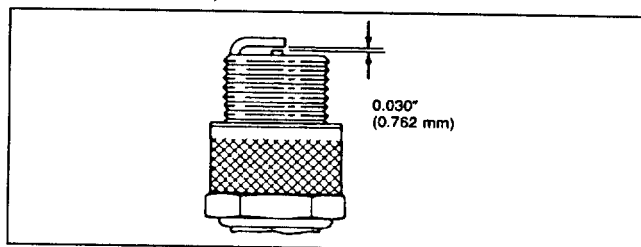

Figure 21
4. Set air gap between center and side electrodes at 0.030 of an inch (0.762 mm) (Fig. 21). Install correctly gapped spark plug w/gasket seal, and tighten plug to 15 ft-lb (20.4 N·m).